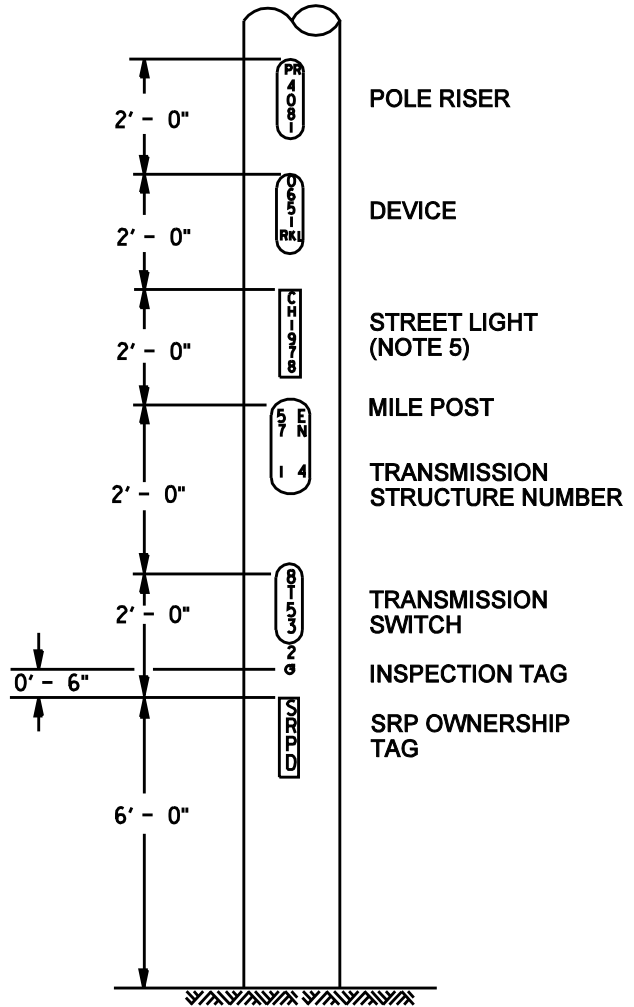

FIGURE 1
6. PLACEMENT OF POLE MARKINGS SHALL BE IN ACCORDANCE WITH FIGURE 1. IF THRU-BOLTS OR OTHER SRP HARDWARE IMPEDE THE SPECIFIED LOCATION OF THE POLE MARKINGS, PLACEMENT OF POLE MARKINGS MAY BE ADJUSTED. EVERY EFFORT MUST BE MADE TO LOCATE THE MARKINGS AS CLOSE AS POSSIBLE TO THE INDICTAED POSITIONS.